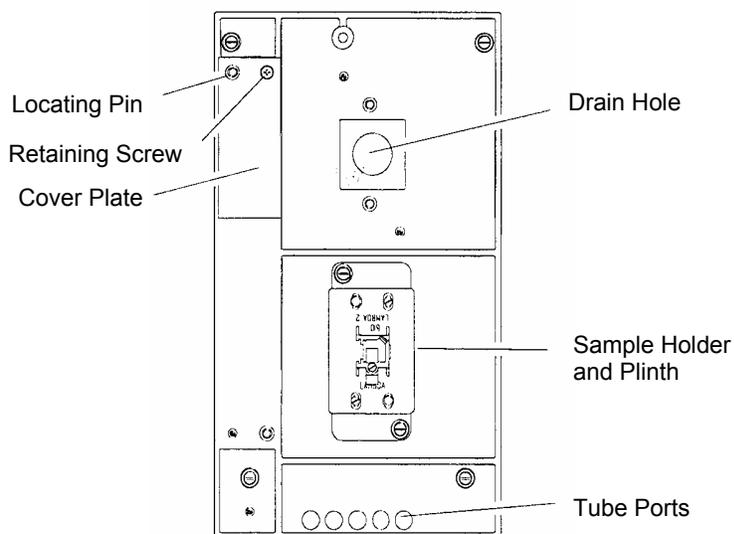

Figure 14 Lambda 650/850/950 Sample Compartment Baseplate
3. Orientate the holder so that the word **LAMBDA** is toward the front of the sample compartment (see Figure 14 below).